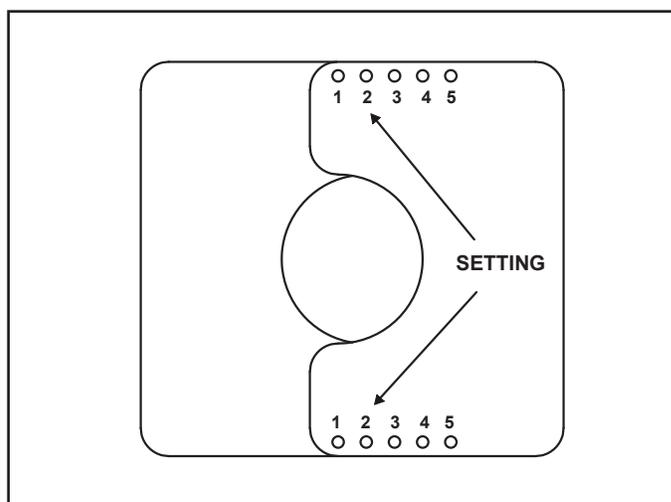

Figure 4.11 Set the Exhaust Restrictor
3. The setting for MEZZO36, MEZZO48, MEZZO60 and MEZZO72 is 2-2. Align the holes marked "2" on the numbered exhaust restrictor piece with the hole on the other exhaust restrictor piece. See Figure 4.11. Align the exhaust restrictor pieces with the pilot holes in the inner firebox chamber. Use two 1/2 inch self-piercing screws to secure vent restrictor to firebox heat shield.
2. The setting for MEZZO36ST, MEZZO48ST, MEZZO60ST, and MEZZO72ST is a 2.5 inch setting, or 2-2. Align the holes marked "2" on the numbered exhaust restrictor piece with the hole on the other exhaust restrictor piece. See Figure 4.11. Center the exhaust restrictor on the vent and secure in place with two 1/2 inch self-piercing screws.